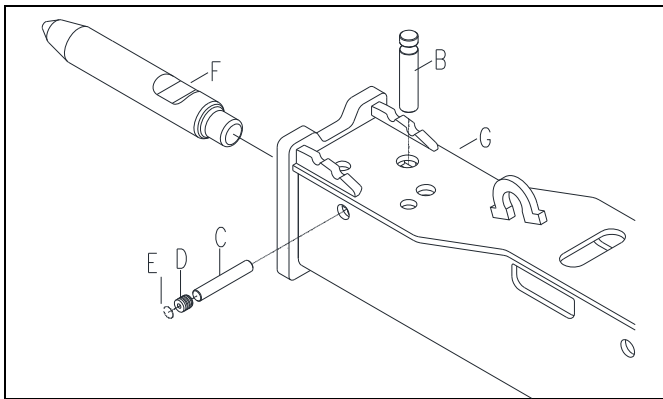

Fig. 10-4 Remove (E) Snap Ring and (D) Rubber Plug. Next, remove smaller pin (C) and large pin (B).
3. Remove (E) Snap Ring and (D) Rubber Plug. Drive small retainer (C) out of front head until it clears large retainer (B). [Fig. 10-4].
4. Remove large retainer (B) and set aside. [Fig. 10-4]
4. Insert the large retainer (B). [Fig. 10-4].
5. Insert small pin (C) through slot in large retainer (B) until fully engaged. [Fig. 10-4].
6. Install (D) Rubber Plug and (E) Snap Ring. [Fig. 10-4].